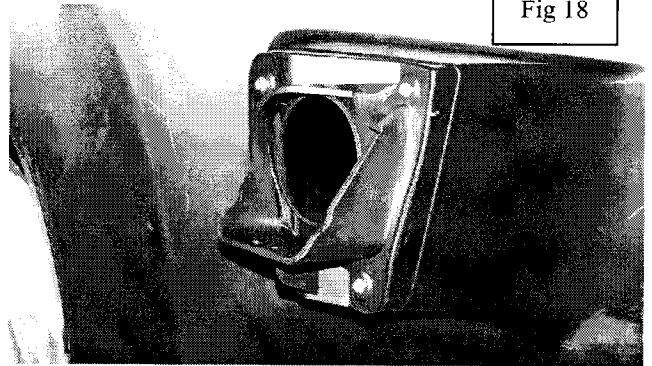

Fig 18
14. Pass lamp & inner bezel assembly through opening in fascia. See Fig 18 & 19 for steps 14a – 14d